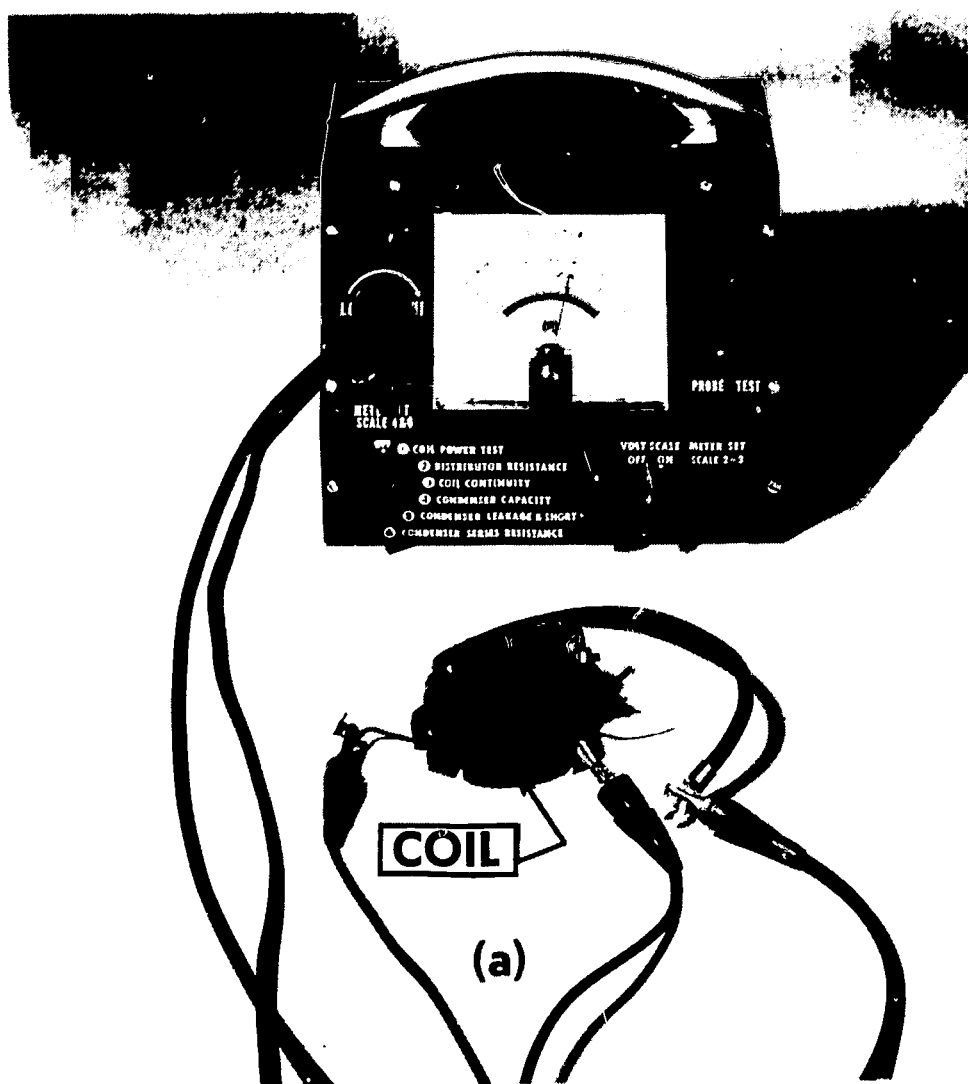

FIGURE 116. Testing coils. Hook up for testing a coil that is designed for mounting (a) underneath the flywheel, and (b) outside the flywheel.
- If you have an **approved coil tester**, follow instructions given by the tester manufacturer and the specifications given for your coil. Examples of approved testers are shown in Figure 116. Check with the coil assembly installed on the yoke. If the coil fails to check out properly, it should be replaced.